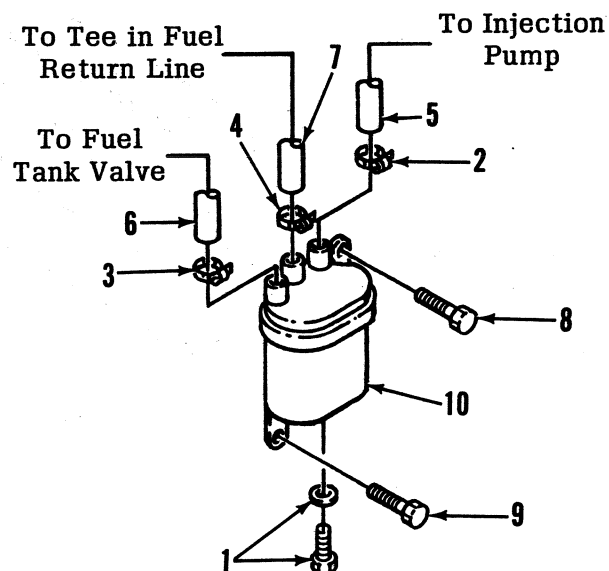

Figure 6-2. Fuel Filter Replacement
- b. Provide a suitable container to catch drainings then remove drain capscrew and washer (1, Figure 6-2).
- d. Remove the capscrews (8 and 9) to release fuel filter (10).
- f. Position replacement fuel filter (10) on bracket. Secure with capscrews (8 and 9).